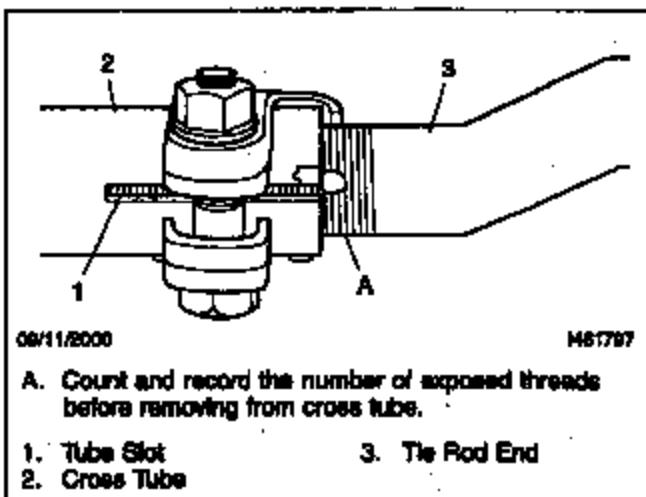

Fig. 5, Bottom View of Tie Rod End and Cross Tube
2. Mark the installed position of each tie rod end and count and record the number of threads that appear outside of the cross tube. See Fig. 5.